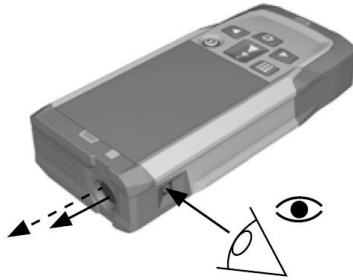

Figure 5
2. With the laser location marker activated, look through the viewing hole of the laser unit (shown in Figure 5). This will allow you to see when the laser is in line with the OHL.